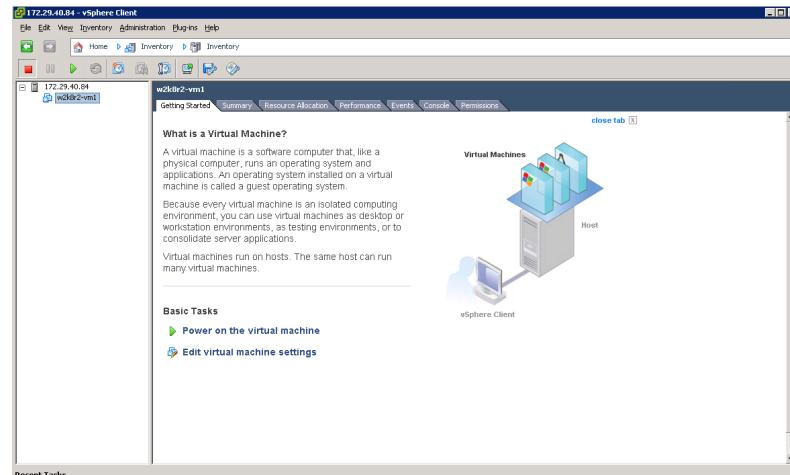

Figure 5-31. Selecting the Virtual Machine
3. Select the virtual machine in the left pane (Figure 5-31).